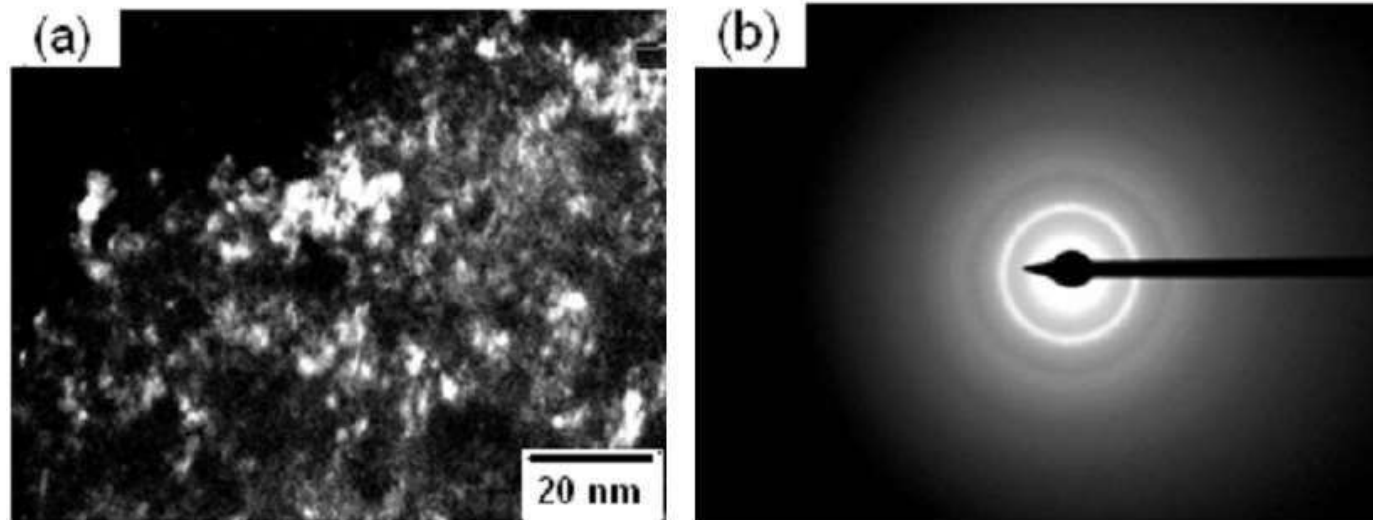

Fig.3: (a) TEM image, (b) SAED pattern of as prepared CuO Nanoparticles.
- Figure 3 (a)** shows the TEM image of as prepared nanoparticles. The size of particle observed in TEM image is in the range of 5-6 nm which is in good agreement with calculated by Scherrer formula using XRD. **Figure 3 (b)** shows the selected area diffraction pattern (SAED) of as prepared CuO nanoparticles. It shows that the particles are well crystallized.